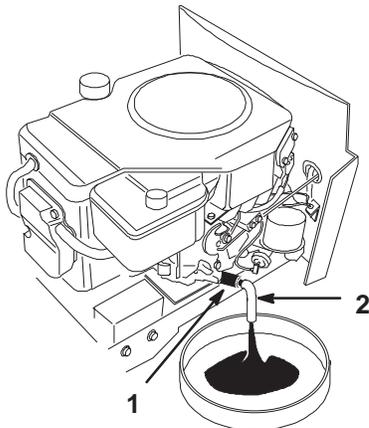

Figure 23
5. Place a pan below the oil drain. Open the drain by turning counterclockwise, 1/8 turn and pull out (Fig. 23).